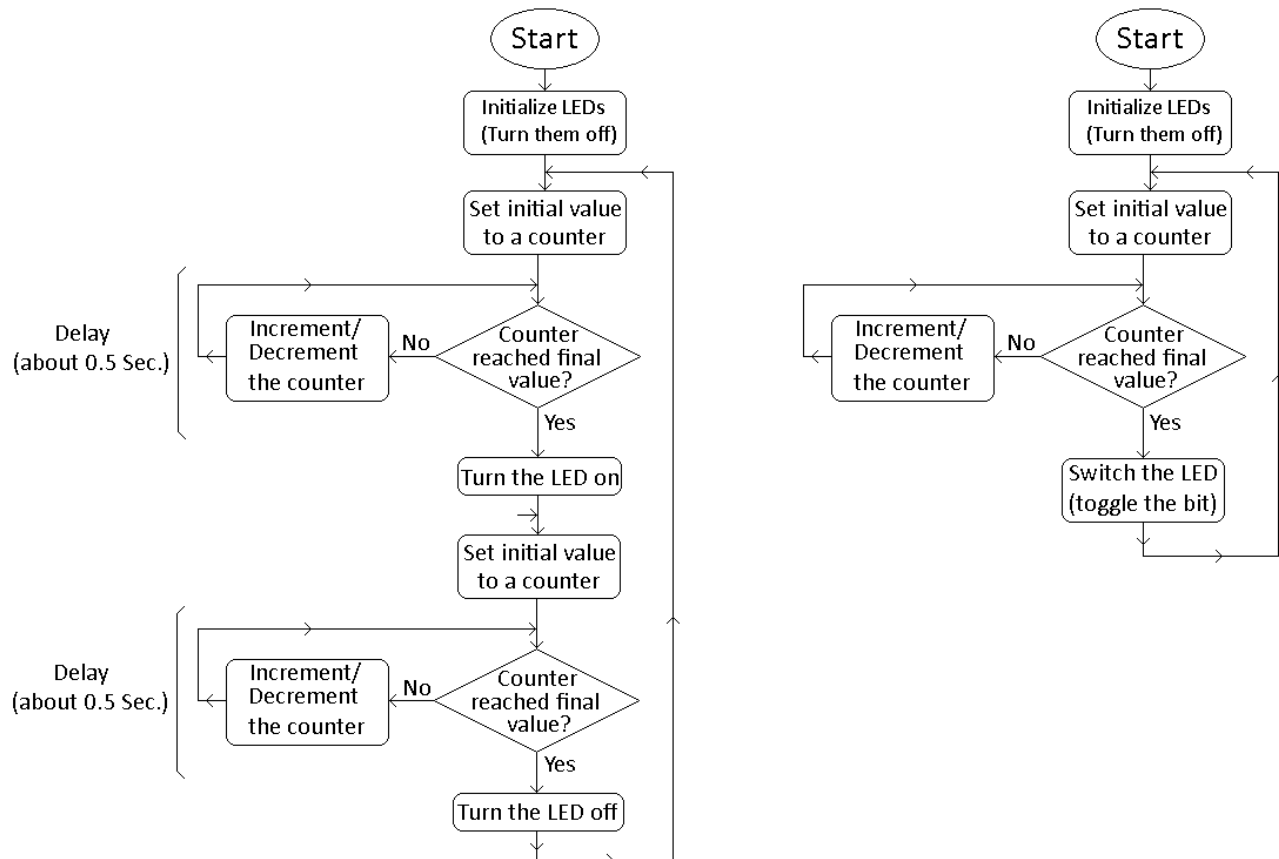

Figure 1.1 – Flowcharts for flashing LED
- Then implement the flashing LED code using an infinite loop which toggles one of the red, green or blue LEDs. Figure 1.1 shows the two different approaches. The shorter flowchart leads to smaller code size and it is more efficient. Your code, when demonstrated for marking, must be using the short flowchart. **But it is strongly recommended that you implement the longer flowchart as the first step.** Once the longer flowchart is working, changing your code to implement the short flowchart.